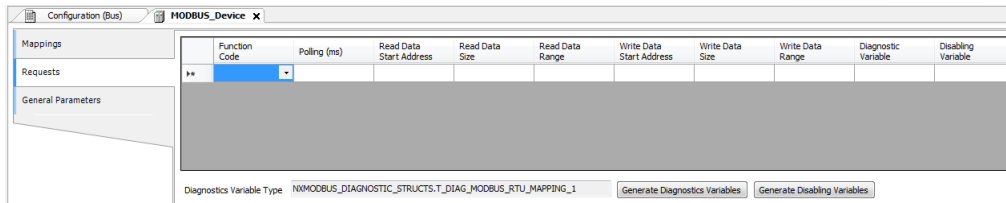

Figure 64: Data Requests Screen MODBUS Master
- Add and configure the MODBUS requests as presented in Figure 64, specifying the function, the scan time of the request, the starting address (read/write), the data size (read/write) and generate diagnostic variables and disabling the request via the buttons at the bottom of the window.